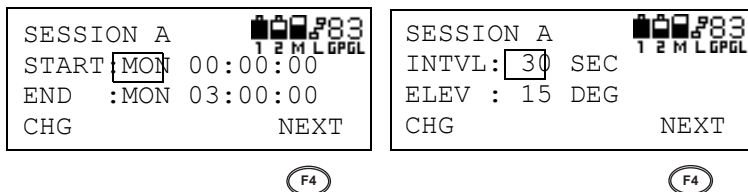

Figure 3-116. Change Parameters
3. Change the settings for the start and end times, the measuring interval, and the angle of elevation. Press **F4** (NEXT) to display each screen (Figure 3-116).